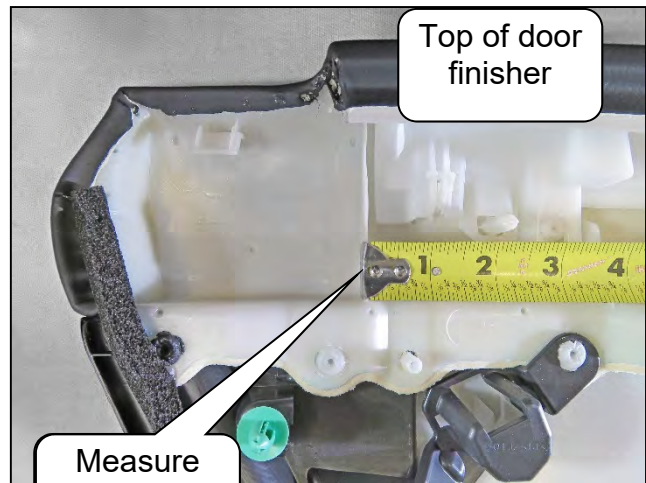

Figure 41
14. Place a tape measure on the tab at the upper corner of the door finisher as shown in Figure 41.